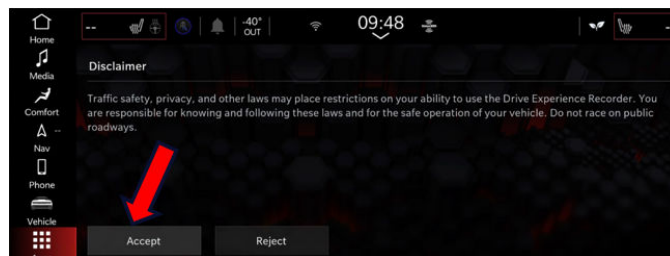

Fig. 3
6. If the disclaimer pops up, accept it Fig. 3.